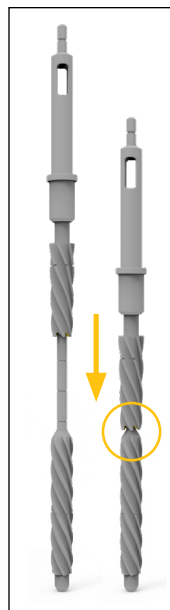

Figure 28
* If the final IM reamer is 16-18mm in diameter, an additional 25mm of reaming is required, resulting in a 200mm ream depth. This is required to avoid interference between the Revision Boss Reamer and the IM reamer cutting flutes (**Figure 28**).